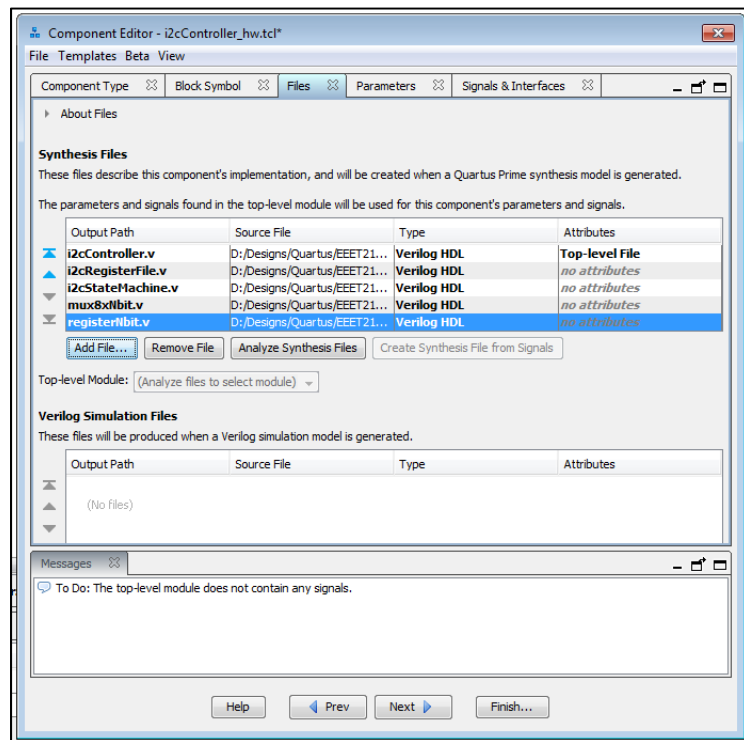

Figure 17 – QSYS HDL Import
- The files imported should include the TLE which includes the HPS bridge signals as per Figure 17.